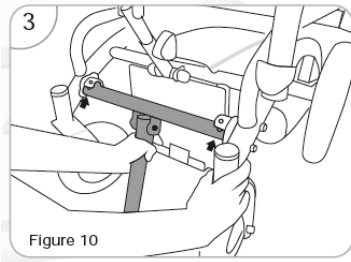

Figure 10
3. Assemble climber as arrows indicate by attaching it to both side's of the holder. (See Fig. 10).